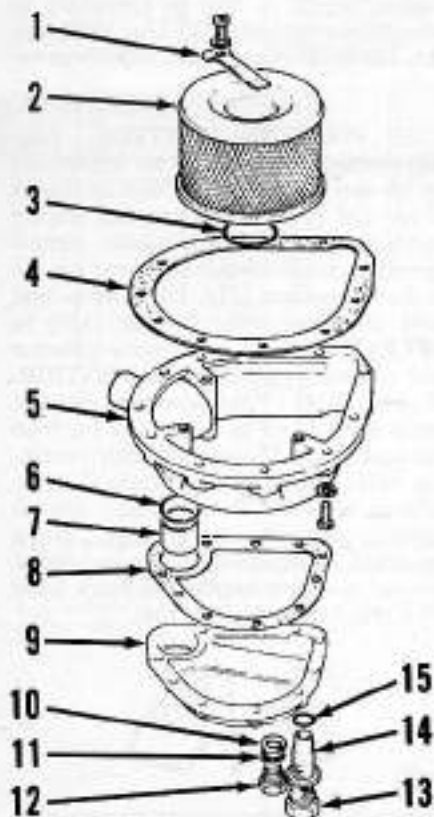
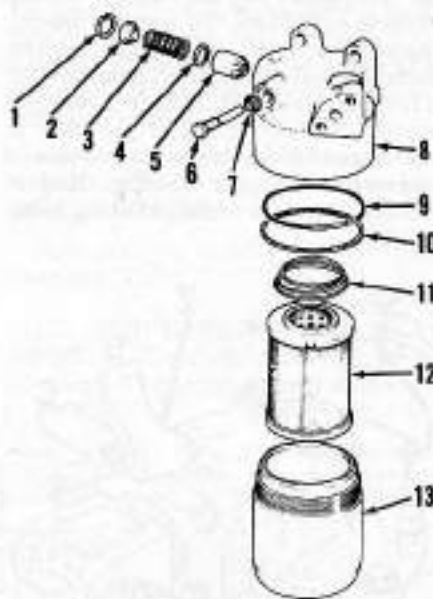

Fig. 196—Exploded view of hydraulic pump suction filter and cover used on 1490 and 1690 models.
Fig. 197—Exploded view of hydraulic system pressure side filter.
356. Filtering system consists of a fine metal filter element (2—Fig. 196) on suction side of pump and a renewable element (12—Fig. 197) on pressure side.
Suction filter (2—Fig. 196) is located on underside of transmission housing and pressure filter (12—Fig. 197) is located in cannister mounted on rear axle on right-hand side of tractor.
Filters should be changed every 500 hours and fluid should be changed every 1000 hours. To clean suction filter, first remove drain plug (12—Fig. 196) and drain fluid, 42 L (44 quarts) into clean container. Note on some power shift models filter (13) must be removed for drain plug. Remove filter housing cover (9) and filter (2). Remove "O" ring (6) and sleeve (7) from suction port. Remove and clean filter (2). Clean power shift filter (14), if so equipped.
Change pressure filter element (12—Fig. 197) by unscrewing cannister (13) from head (8) and remove filter. Install new "O" rings and back-up rings,